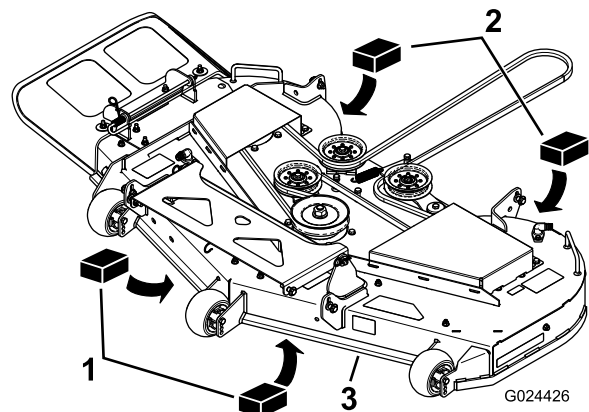

Figure 60
3. Place two 6.66 cm (2-5/8 inch) blocks under each side of the front edge of the deck, but not under the anti-scalp roller brackets (Figure 60).
4. Place two 7.30 cm (2-7/8 inch) thick blocks under the rear edge of the cutting deck skirt; one on each side of the cutting deck (Figure 60).